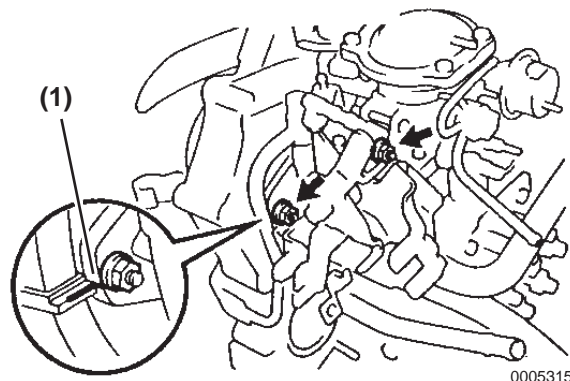

Figure 6-52
8. Check that match marks **(Figure 6-52, (1))** align before removing the fuel injection pump; if they do not have match marks, draw new match marks for reassembly.